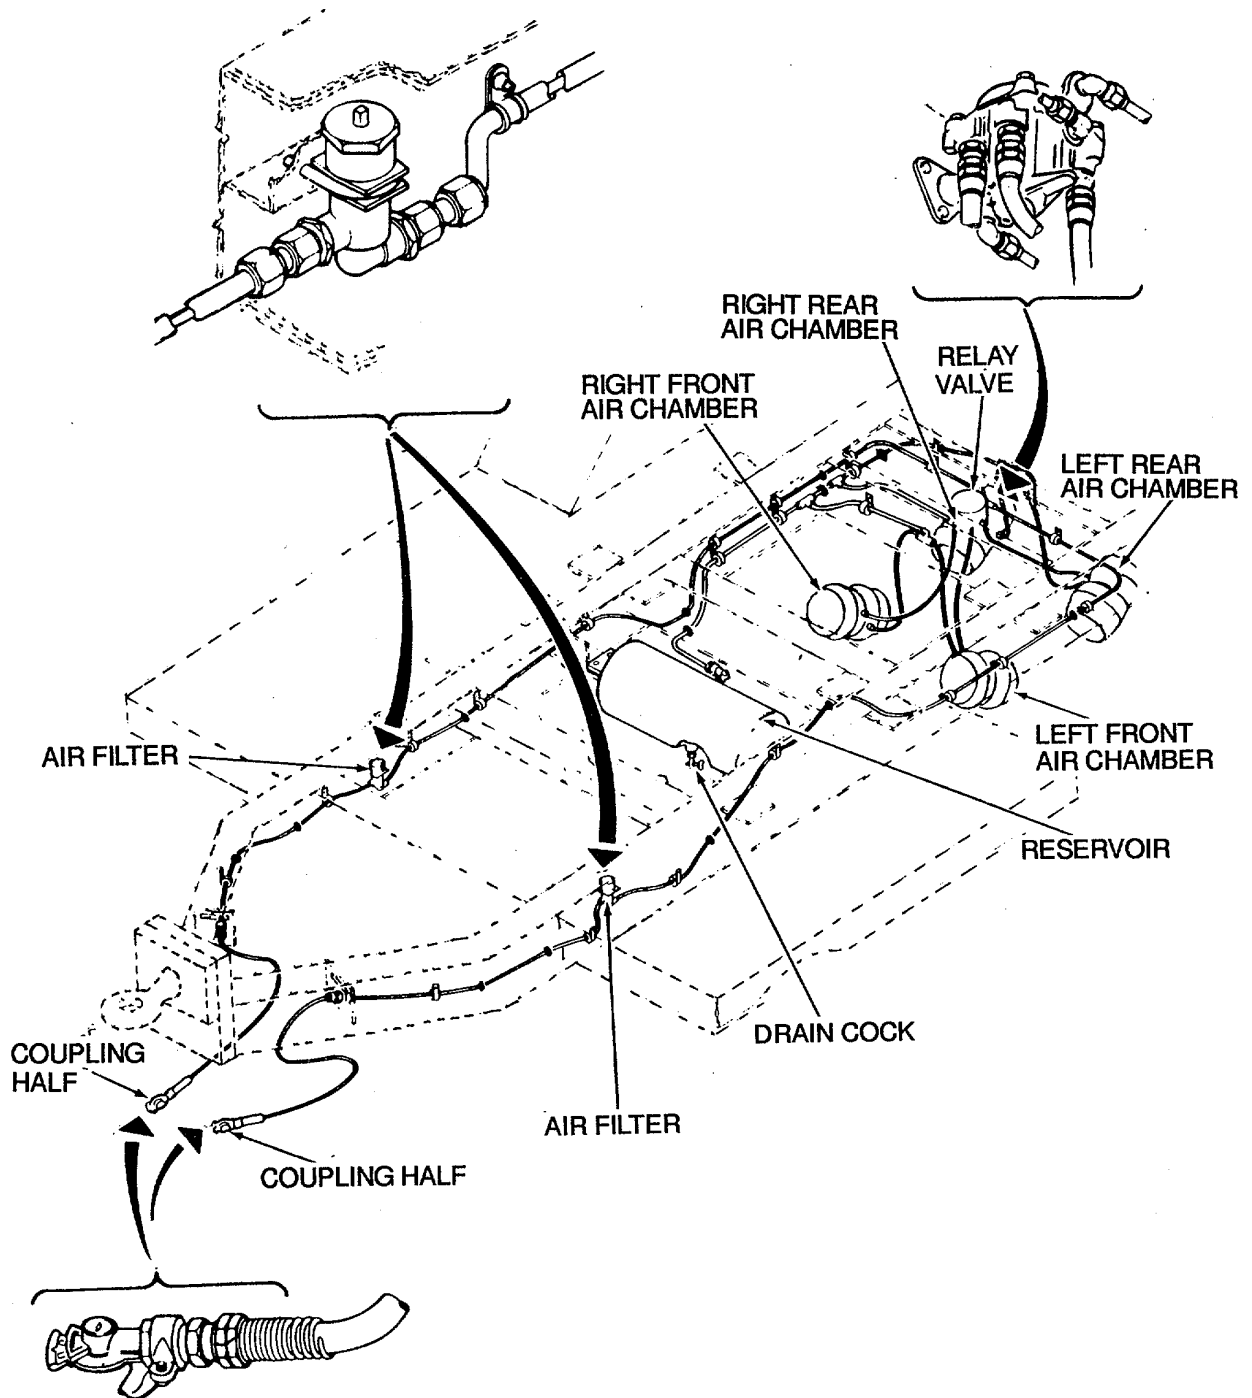

Figure 2-3. Airbrake System Support Diagram
- Refer to figure 2-3 for airbrake system support diagram.